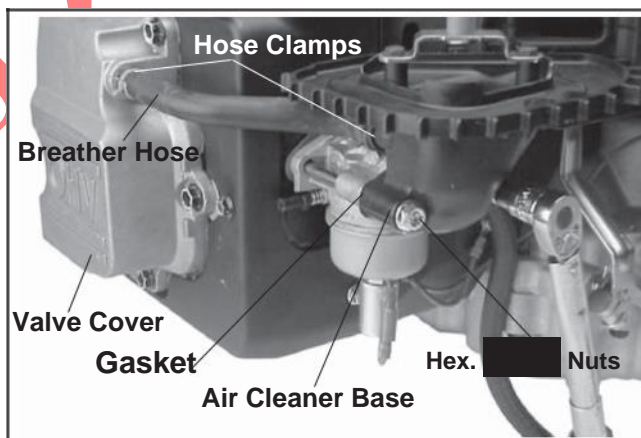

Figure 11-65. Installing Air Cleaner Base.
2. Install the gasket, air cleaner base, and hex. flange nuts. Torque the nuts to **9.9 N·m (88 in. lb.)**. See Figure 11-65.